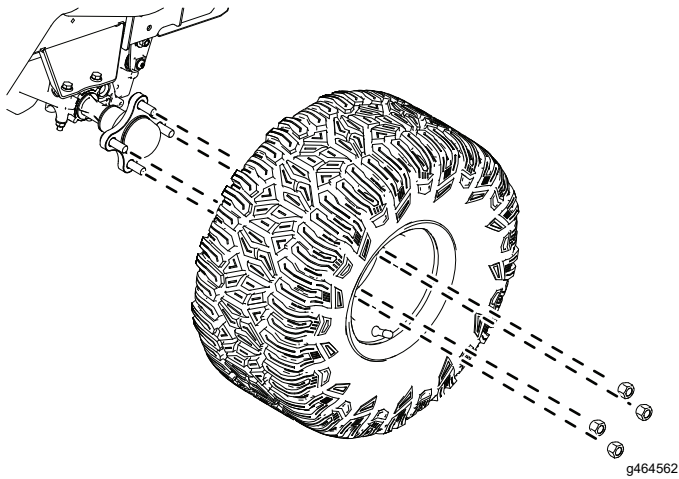

Figure 4
10. Remove the rear tires as shown in Figure 4
- Install the rear tires as shown in Figure 4.